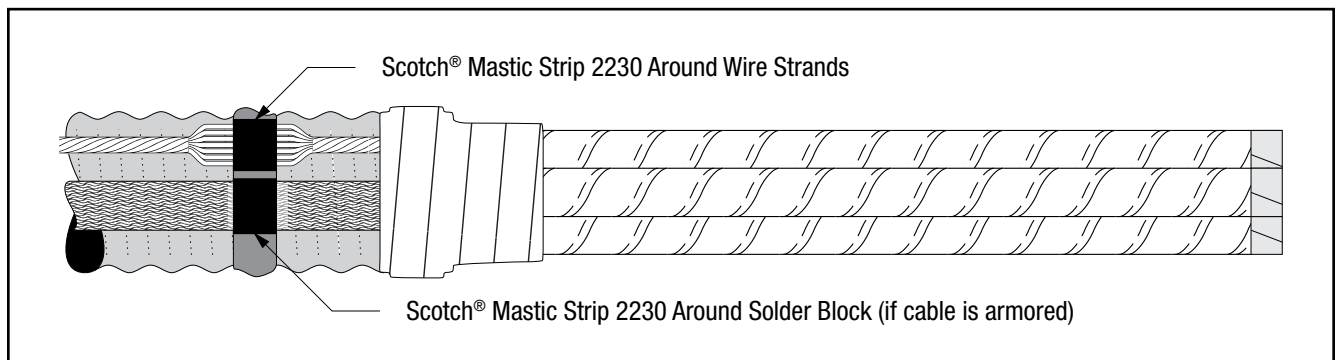

Figure 9
- 3.9 Apply one strip of Scotch® Mastic Strip 2230 around ground wire strands (*Figure 9*). Apply one strip of Scotch® Mastic Strip 2230 around solder block section of ground braid tail (if cable is armored). Align Scotch® Mastic Strip 2230 wraps with previously applied Scotch® Mastic Strip 2230 strips around cable jacket.